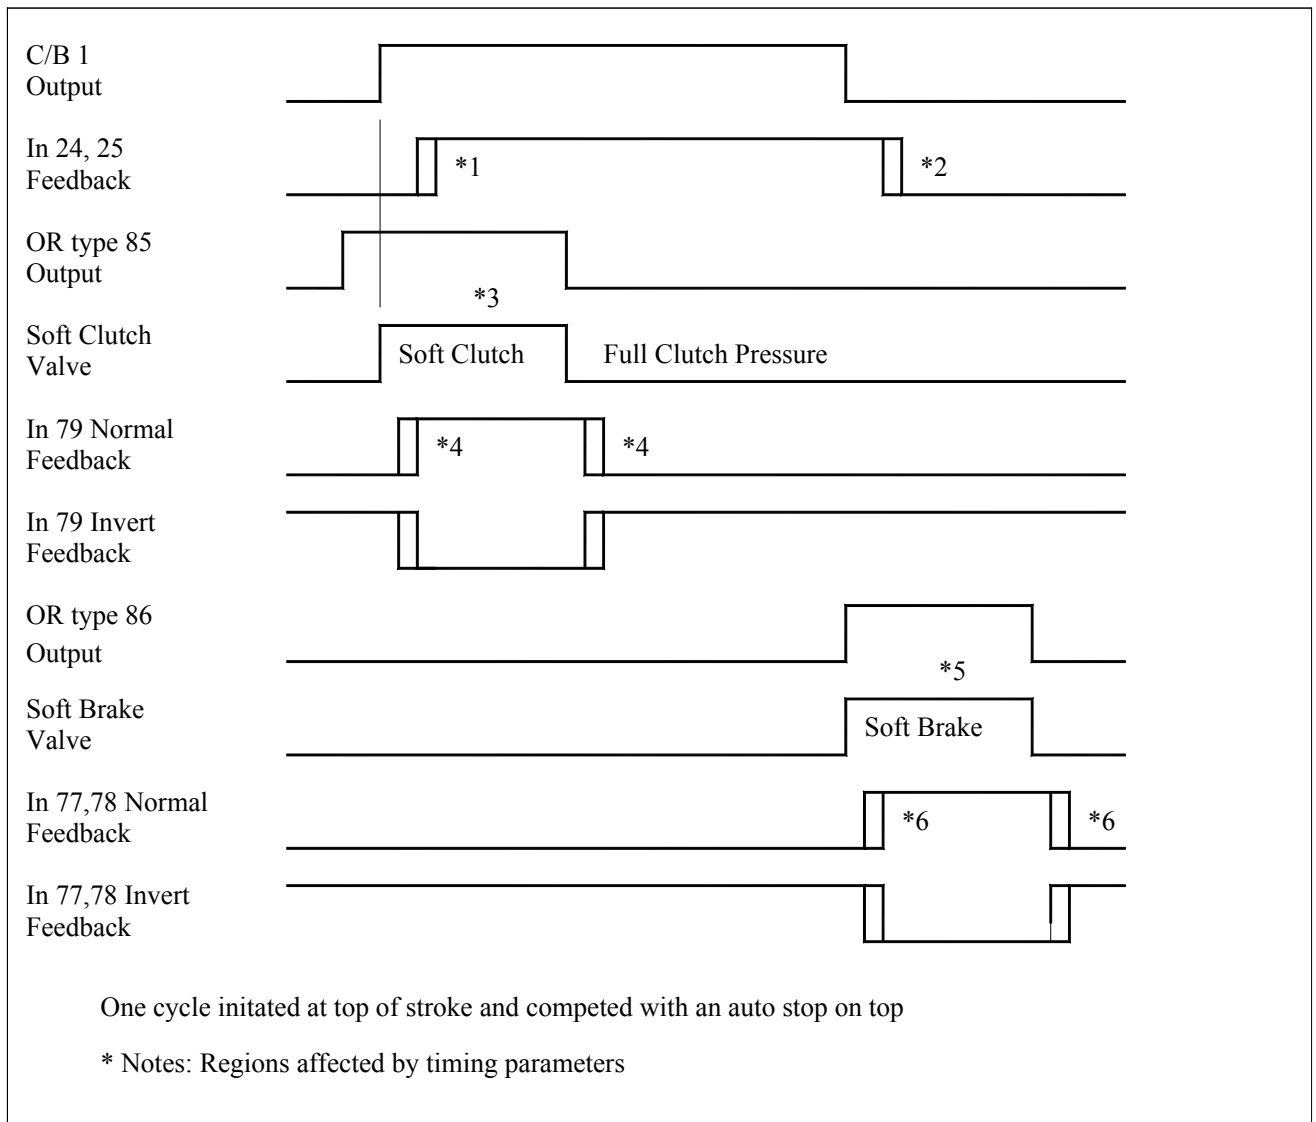
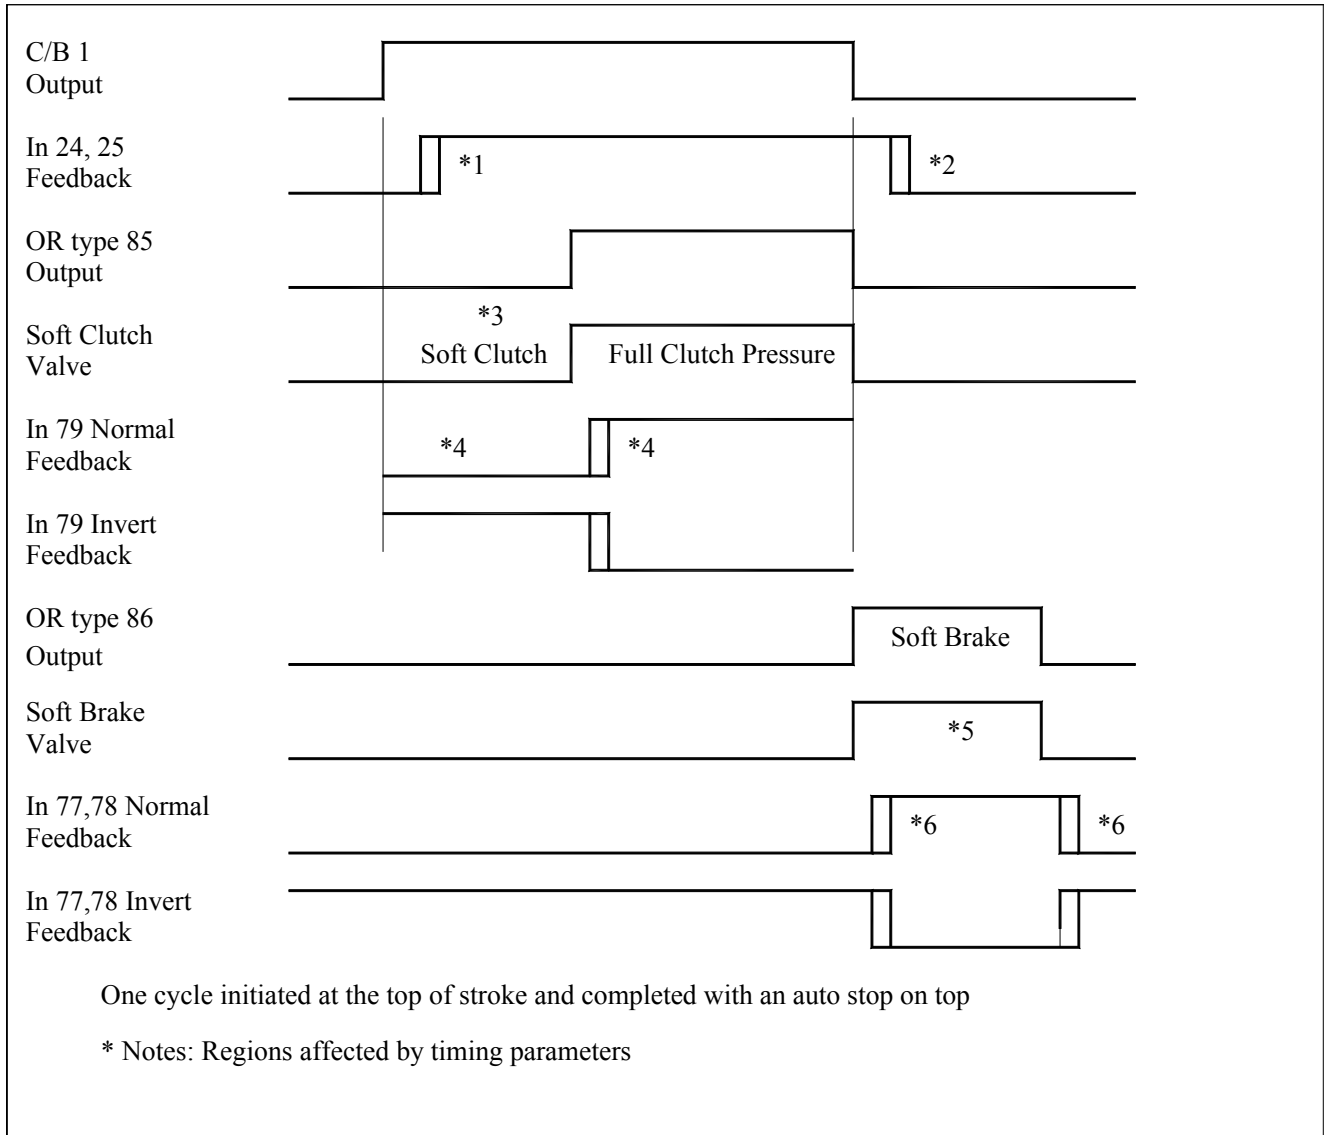
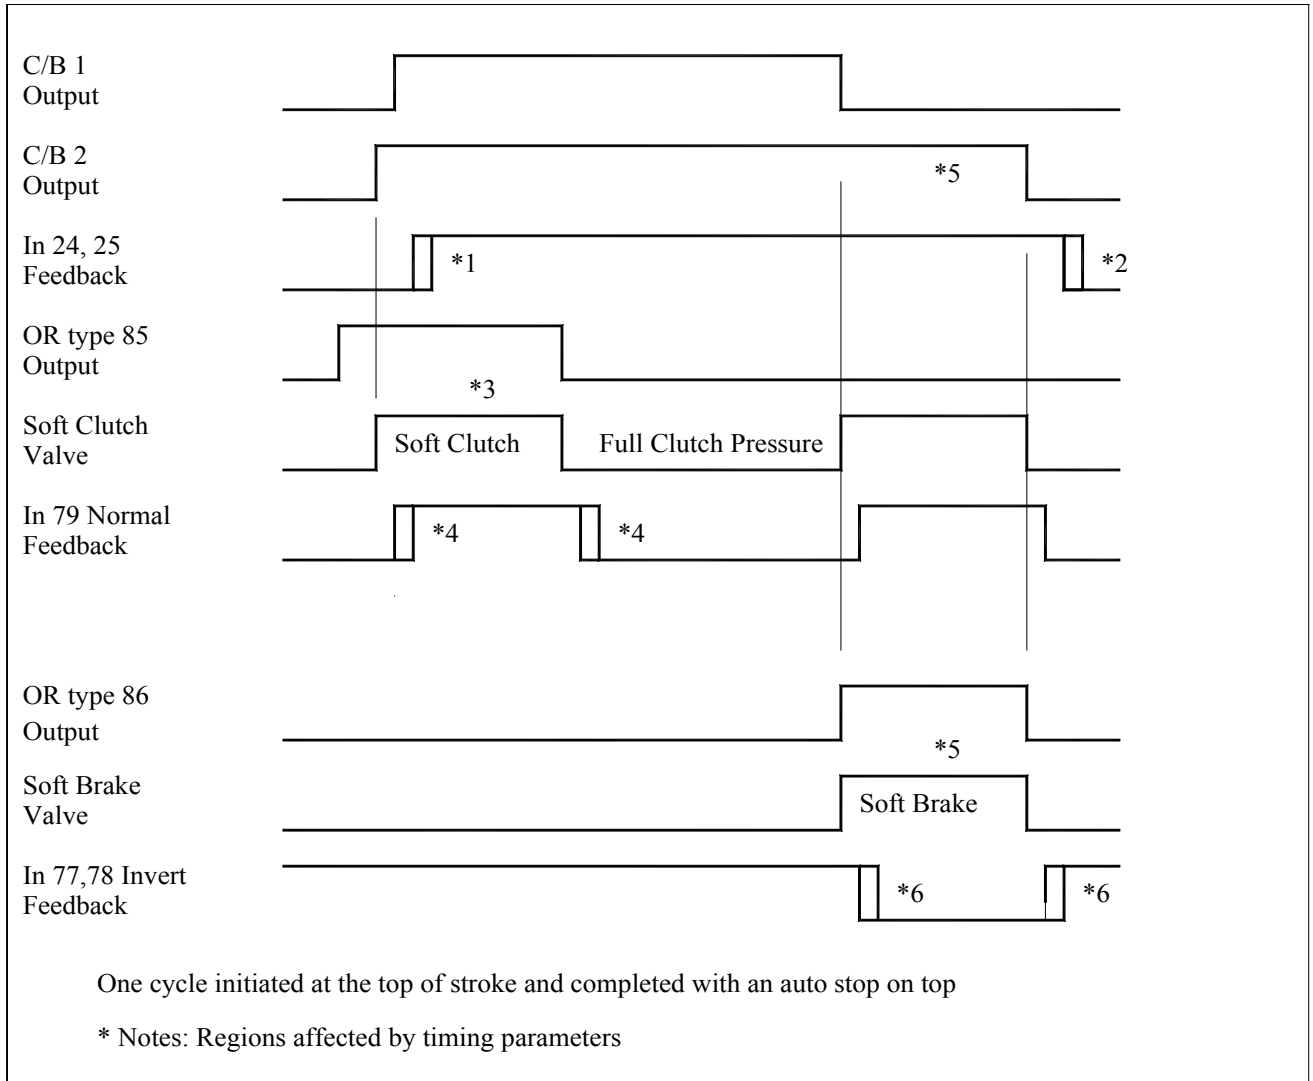

Figure 45: Soft Clutch Type 1 Timing with “Soft Brake Type” set to “Used”
Figure 46: Soft Clutch Type 2 Timing with “Soft Brake Type” set to “Used”
Figure 47: Soft Clutch Type 3 Timing with “Soft Brake Type” set to “Used”
This type of valve requires Clutch/Brake Output 1 to turn on the dual solenoids at engagement. The valve has proximity sensors on both poppets. Valve Monitor Type 1 is used to monitor the sensors. The valve monitor provides programmable feedback timers for valve turn on and valve turn off (see Section 4.2.4). The valve has an additional solenoid that is energized for soft clutch (see Figure 45). If a stroke is initiated in modes that perform soft clutch and initiation occurs above the “Soft Clutch Disable Point”, output type 85 will turn on about 100mS prior to the C/B 1 output turn on. The output will remain on for a programmable “Soft Clutch “On” Time” after C/B 1 turns on. The combination of Output Relay Type 85 and C/B 1 is required to energize the soft clutch solenoid. Output Relay Type 85 will turn off to command full clutch pressure for the remainder of the stroke. Modes that do not perform soft clutch include Inch, Timed Inch, Bar, Micro Inch, and Clutch/Brake Test mode.
*** Notes for Figure 45: These regions are affected by the following time parameters.**
This type of valve requires Clutch/Brake Output 1 to turn on the dual solenoids at engagement. The valve has proximity sensors on both poppets. Valve Monitor Type 1 is used to monitor the sensors. The valve monitor provides programmable feedback timers for valve turn on and valve turn off (see Section 4.2.4). The valve has an additional solenoid that remains off at engagement to soft clutch and turns on to command full clutch pressure (see Figure 46). If a stroke is initiated in modes that perform soft clutch and initiation occurs above the “Soft Clutch Disable Point”, Output Relay Type 85 will remain Off for a programmable “Soft Clutch “On” Time” after C/B 1 turns on. The combination of Output Relay Type 85 and C/B 1 is required to energize the soft clutch solenoid. Output Relay Type 85 will then turn On to command full clutch pressure for the remainder of the stroke. Modes that do not perform soft clutch include Inch, Timed Inch, Bar, Micro Inch, and Clutch/Brake Test mode.
*** Notes for Figure 46: These regions are affected by the following time parameters.**
*** Notes for Figure 47: These regions are affected by the following time parameters.**
This parameter defines how the soft clutch is monitored, if the valve has a sensor for feedback. If no sensor exists, the parameter should be set to “0: None” and no feedback monitor is performed. Type “1: Normal (Active Hi)” feedback should be used if the sensor switches high when Output Relay Type 85 and C/B 1 are both ON. Type “2: Inverted (Active Lo)” feedback should be used when the sensor switches high when Output Relay Type 85 is off while C/B 1 is on (see Figure 45, Figure 46, and Figure 47).
This parameter defines the amount of time that the soft clutch will engage at stroke initiation. Note that some types of soft clutch valves require an output to energize a solenoid during this time (see Figure 45). Other types require an output to remain off until this time has expired (see Figure 46). The time is programmable from 20 milliseconds to 600 milliseconds in increments of 10 milliseconds.
This parameter configures the soft brake operation. If configured as “0: Not Used”, the soft brake Output Relay Type 86 will remain Off and inputs 77 and 78 are configurable inputs. If “Soft Brake Type” is configured as “1: Used”, Inputs 77 and 78 are designated as feedback inputs and cannot be used for any other function. The soft brake Output Relay Type 86 turns On only during an automatic stop at top when C/B 1 turns Off at the speed advanced top stop point (see Figure 45, Figure 46, and Figure 47). Soft brake is not performed in Bar, Micro Inch, Clutch/Brake Test, or Setup/Stop Time Test modes.
This parameter defines the maximum amount of time that the soft brake Output Relay Type 86 remains On when used with “Soft Clutch Type” set to “1: ON at Start” or “2: OFF at Start” (see Figure 45 and Figure 46). The soft clutch output will turn Off before this time expires when crankshaft velocity goes below 2rpm. The time is programmable from 20 milliseconds to 600 milliseconds in increments of 10 milliseconds. This parameter is not used when “Soft Clutch Type” is set to “3: ON at Start and during Soft Brake”.